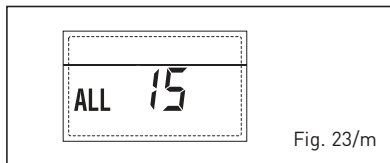

Fig. 23/m
- EXTERNAL PROBE ERROR "FLASHING" (fig. 23/p)